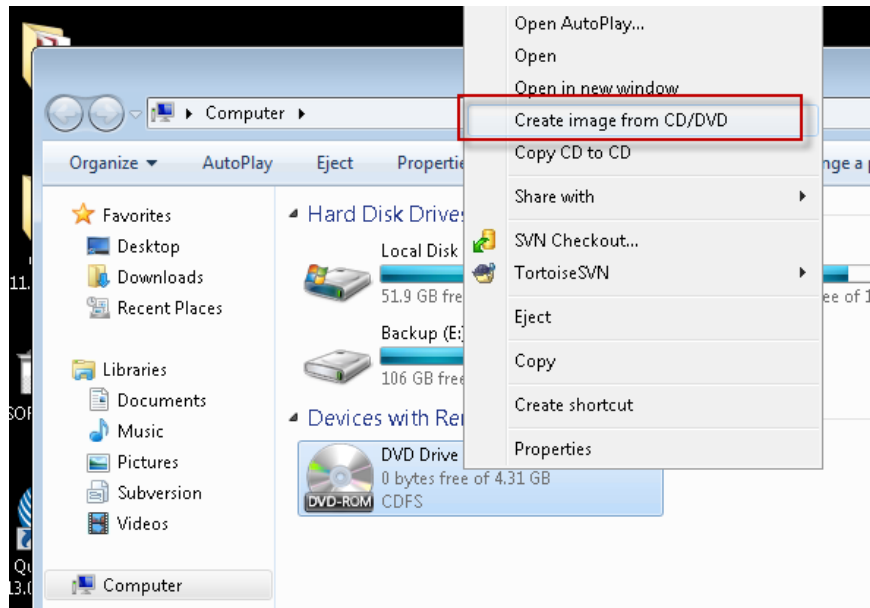

Figure 2-1 Create image from CD/DVD
5. Open "My Computer" and right-click on the Windows 7 installation DVD to select "Create image from CD/DVD, as shown in **Figure 2-1**.